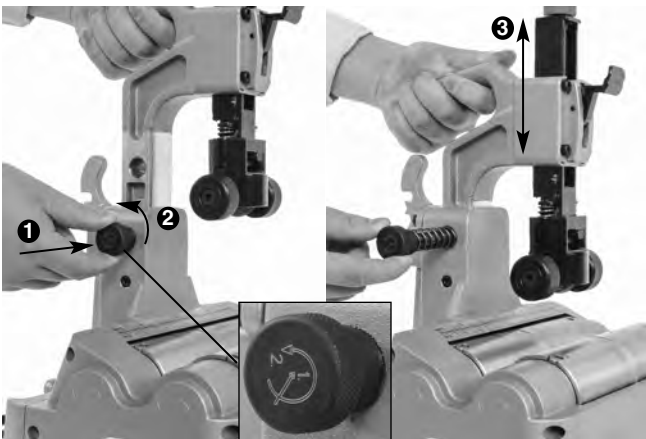

Figure 6 – Quick Switch Size Adjustment
1. With no tube in cutter, grasp grip and release the pin by slightly depressing the knob ① and turning slightly counter-clockwise ②. The knob is spring loaded and will retract, control the movement of the knob. See Figure 6.
2. Using grip, move head to desired position ③.